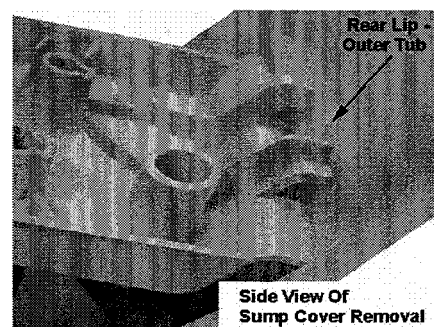

Figure 9
3. Lift the front of the sump cover and disengage from rear lip of outer tub. **Figure 9**